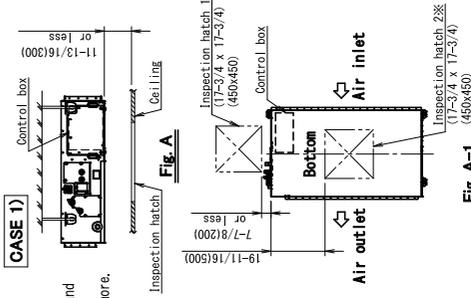

Fig. A-1
1) Inspection hatch 1 and 2 (17-3/4 x 17-3/4) (450x450) (Fig. A-1) and a space of 11-13/16(300mm) or more under the unit. (Fig. A) Note) Inspection hatch 2 is not needed when there is a space for service work under the unit.
1) Inspection hatch 1 and 2 (17-3/4 x 17-3/4) (450x450) (Fig. A-1) and a space of 11-13/16(300mm) or more under the unit. (Fig. A) (Note) Inspection hatch 2 is not needed when there is a space for service work under the unit.